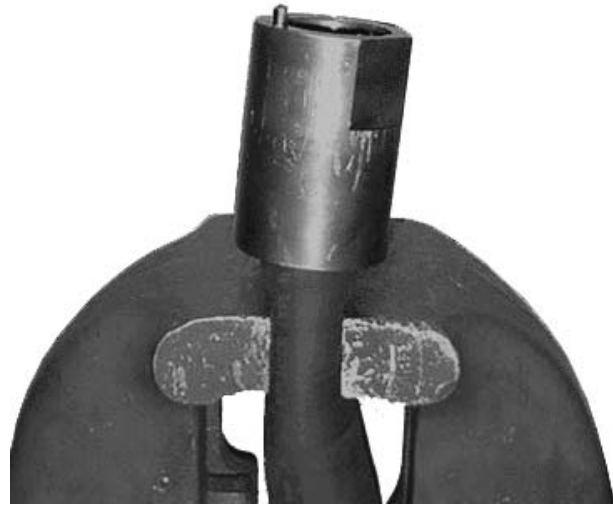

Figure 11-11. Valve Nut and Whip Hose in Vise
- a. Clamp the hose in a vise with the attached Hose Socket or Valve Nut standing vertically above the jaws. Refer to Figure 11-11.